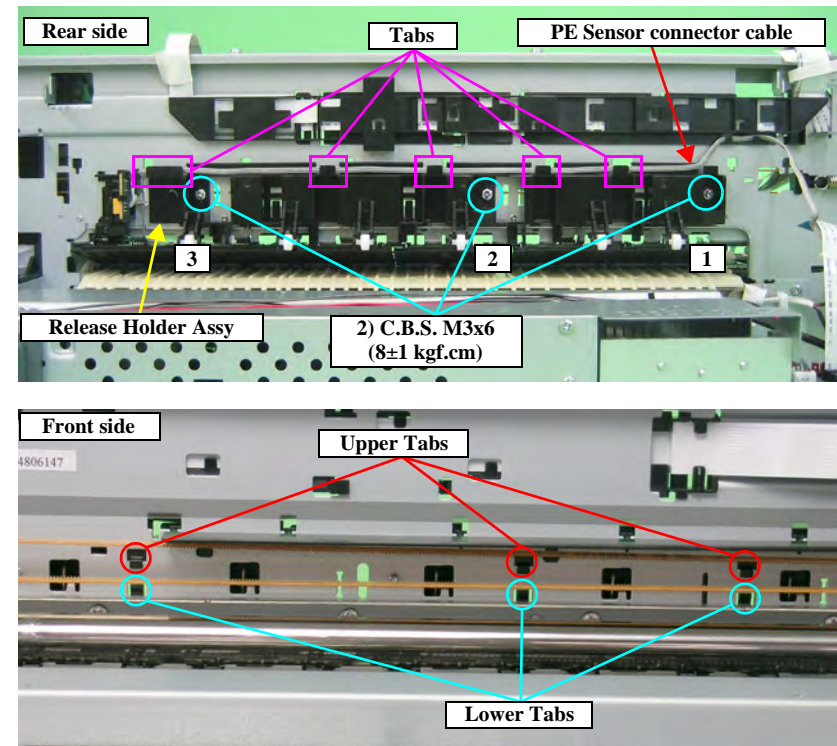

Figure 4-141. Removing the Release Holder Assy
- Align the three upper tabs on the Release Holder Assy with the positioning holes on the Main Frame. See Figure 4-141 (p.117)
- Tighten the screws in the order shown in Figure 4-141